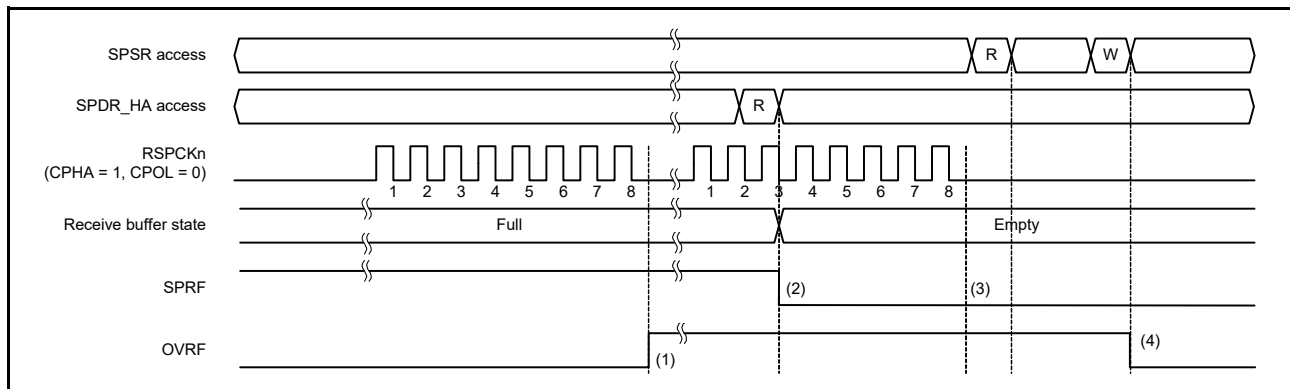

Figure 30.28 Operation example of OVRF and SPRF flags
Figure 30.28 shows an example operation of the OVRF and SPRF flags. The SPSR and SPDR/SPDR_HA accesses shown in Figure 30.28 indicate the condition of accesses to SPSR and SPDR/SPDR_HA, respectively, where W denotes a write cycle, and R a read cycle. In the example, the SPI performs an 8-bit serial transfer in which the SPCMD0.CPHA bit is 1 and the SPCMD0.CPOL bit is 0. The numbers given for RSPCKn in the waveform represent the number of RSPCK cycles, such as the number of transferred bits.
The operation of the flags at timings (1) to (4) in Figure 30.28 is as follows:
- (1) If a serial transfer terminates with the SPRF flag set to 1 (receive buffer full), the SPI detects an overrun error, and sets the OVRF flag to 1. The SPI does not copy data in the shift register to the receive buffer. Even when the SPPE bit is 1, parity errors are not detected.
- (2) When SPDR/SPDR_HA is read, the SPI outputs the data in the receive buffer. The SPRF flag is then set to 0. The receive buffer becoming empty does not set the OVRF flag to 0.
- (3) If the serial transfer ends with the OVRF flag set to 1 (an overrun error occurs), the SPI does not copy data in the shift register to the receive buffer (the SPRF flag is not set to 1). A receive buffer full interrupt is not generated. Even when the SPPE bit is 1, parity errors are not detected. When an overrun error occurs and the SPI does not copy the received data from the shift register to the receive buffer, on termination of the serial transfer, the SPI determines that the shift register is empty. This enables data transfer from the transmit buffer to the shift register.
- (4) If 0 is written to the OVRF flag after SPSR is read when the OVRF flag is 1, the OVRF flag is set to 0.